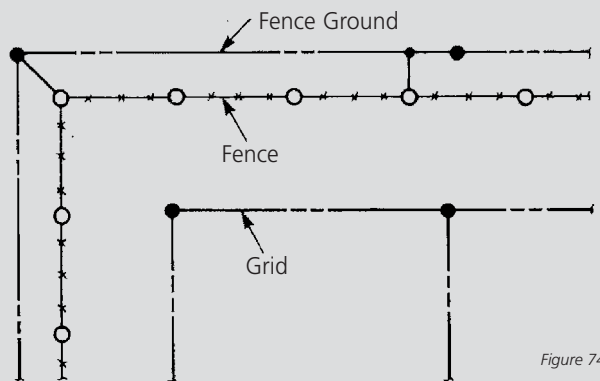

Figure 74.
2. Use a separate fence ground if the fence is outside the ground grid area (Figure 74).
If the fence is not connected to the main grid (Figure 74), one must consider: